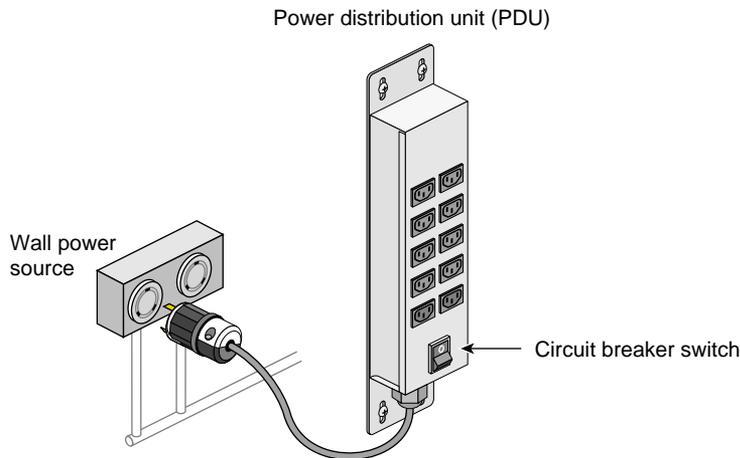
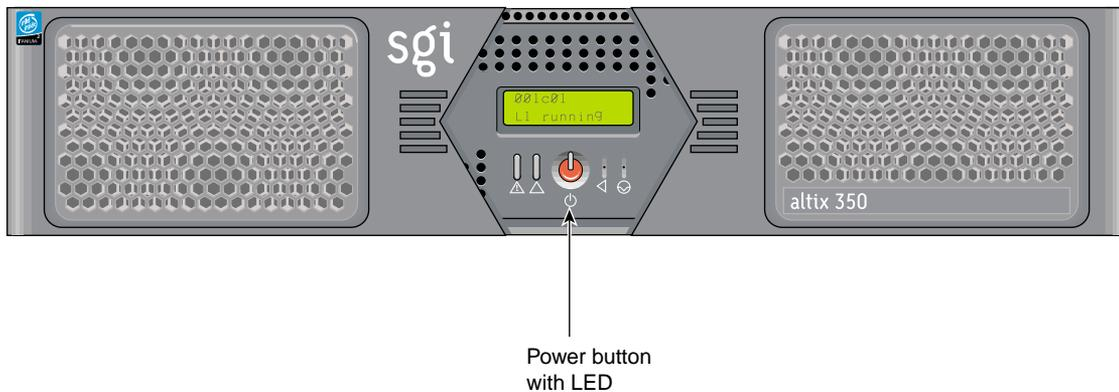

Figure 1-31 PDU Circuit Breaker
Figure 1-32 Location of the Power Button
3. Turn on the circuit breaker switch of the PDU as shown in Figure 1-31.
2. Turn on the circuit breaker switch of the PDU as shown in Figure 1-31 on page 56.
- a. For the TP900 storage module, press the rear-panel power button to ON (I).
- b. For the CMPX module, the base compute module, and the CPU expansion compute module, press the power button with the LED on the front panel of each module (see Figure 1-32).
- To power off the TP900 storage module, press the power button on its rear panel to the OFF (O) position.
- To power off the base compute module, the system expansion compute module, and the CMPX module, press the power button with the LED on the front panel of each module (see Figure 1-32 on page 58).